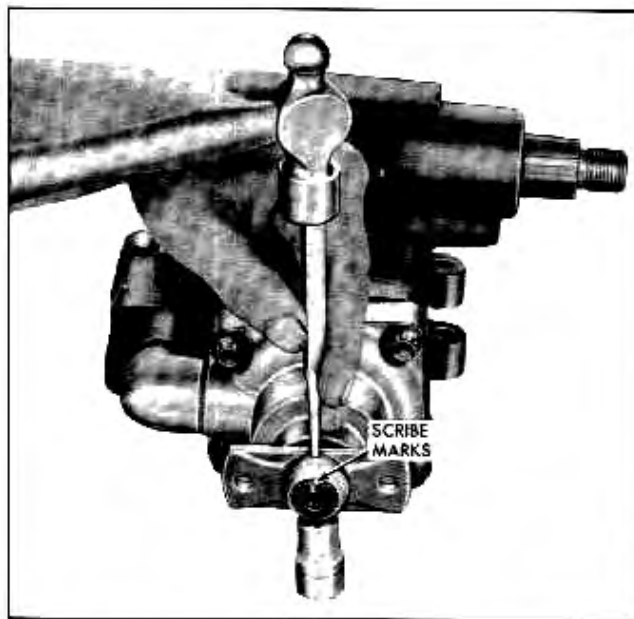

Fig. 9-25 Removing Roll Pin From Flange
2. Support worm shaft flange with socket or other suitable tool. Drive roll pin out of flange and shaft. (Fig. 9-25).